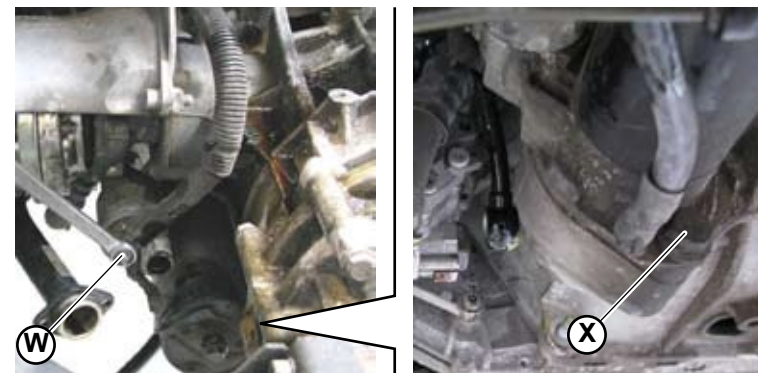

Fig.11
19. Connect the positive cable connector (**W-Fig.11**) to the starter.
20. Connect the earth cable (**X-Fig.11**) to the starter.